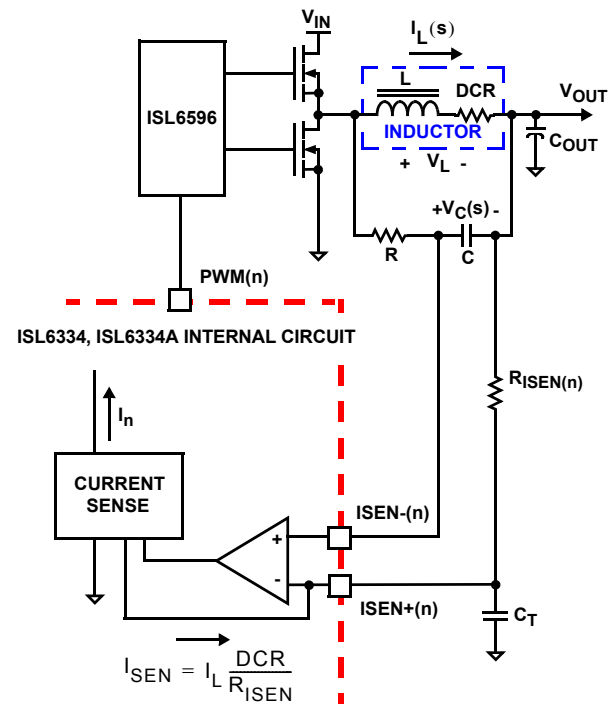

FIGURE 8. DCR SENSING CONFIGURATION
The internal circuitry, shown in Figures 8 and 9, represents one channel of an N-channel converter. This circuitry is repeated for
An inductor’s winding is characteristic of a distributed resistance, as measured by the DCR (Direct Current Resistance) parameter. Consider the inductor DCR as a separate lumped quantity, as shown in Figure 8. The channel current  $I_L$ , flowing through the inductor, will also pass through the DCR. Equation 4 shows the s-domain equivalent voltage across the inductor  $V_L$ .
A simple R-C network across the inductor extracts the DCR voltage, as shown in Figure 8.
The current sense circuitry operates in a very similar manner for negative current feedback, where inductor current is flowing from the output of the regulator to the PHASE node, opposite of flow pictured in Figures 8 and 9. However, the range of proper operation with negative current sensing has a limitation. The worst-case peak-to-peak inductor ripple current should be kept less than 70% of the OCP trip point (internal mirrored current =  $\sim 70\mu\text{A}$ ). Care should be taken to avoid operation with negative current feedback exceeding this threshold, as this may lead to momentary loss of current balance between phases and disruption of normal circuit operation. Note that the negative current can especially affect coupled inductor designs, where the effective inductance is the leakage between the two channels, much lower than the specified mutual inductance (LM). To limit the impact, a higher  $R_{ISEN}$  value (1.5x to 2x) can be used to reduce the effective negative current seen by the controller in coupled inductor designs. Refer to Intersil's application note, AN1268 for a detailed coupled inductor discussion and ripple current calculation.